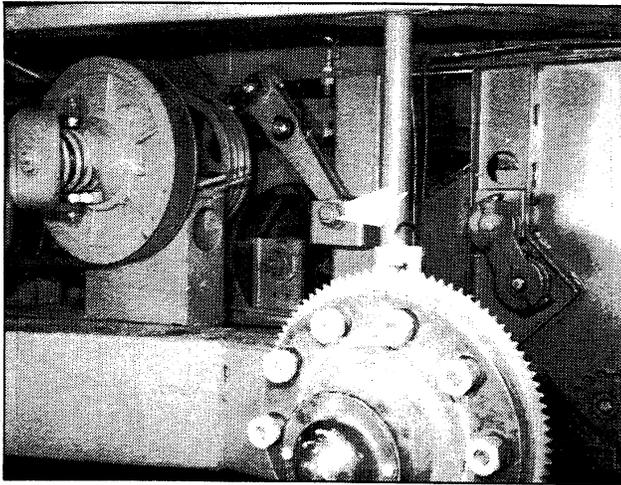

FIGURE 2-14: Ground Speed Sensor
3. Check clearance between sensor and disc. Clearance must be 2 mm (0.08 in.). Adjust by loosening two flange screws and sliding sensor into position and tightening flange screws (Figure 2-14).
1. Disconnect plug on sensor wires (Figure 2-14).